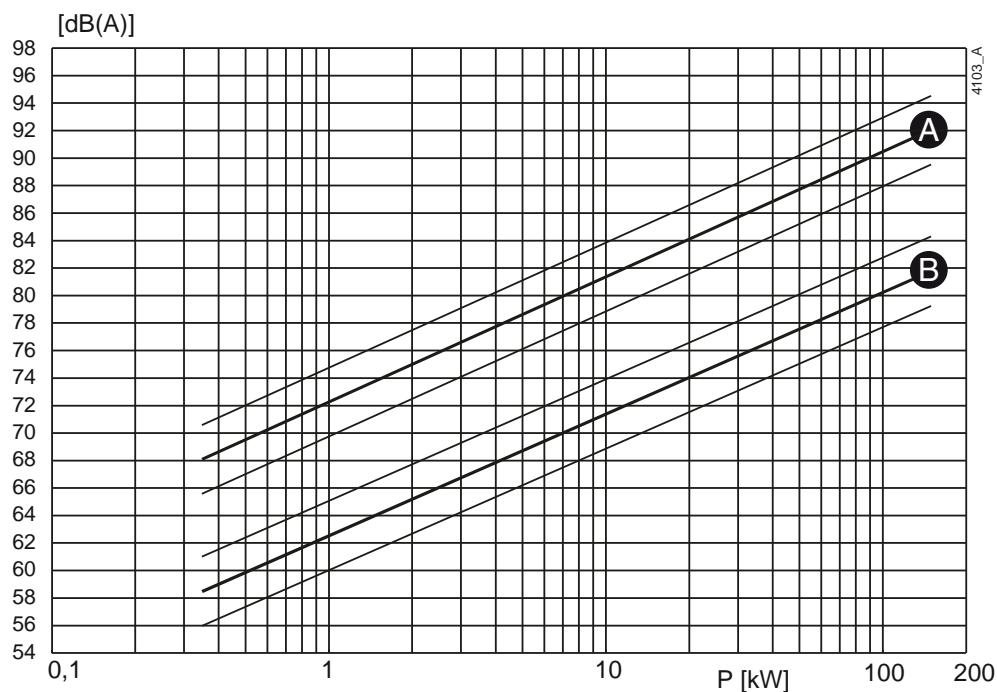

Figure 61: Noise level as function of pump power [kW] at  $1450 \text{ min}^{-1}$
- 1 Determine the noise level ( $L_1$ ) of the pump, see figure 61 or figure 62.